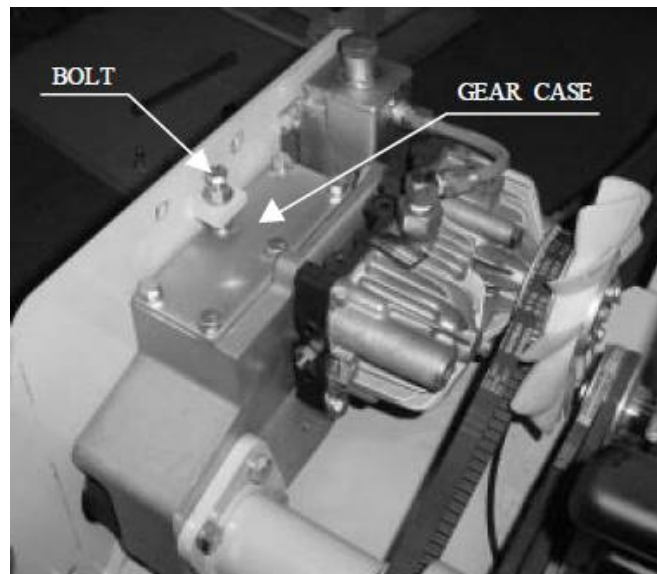

Figure 14-3
2. Move the position of the gear case by turning the bolt on top of the case until the proper belt tension is obtained. Refer to Figure 14-3.